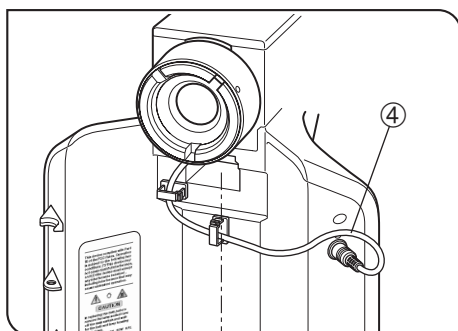

Fig. 49
- ⊙ Distribute its cable ④ toward the rear panel by passing it below the arm, and connect the cable to the connector on the rear panel.
- ⊙ As shown in Fig. 49, connect to the connector by letting the cable into the cable holder (attached with BX43-5RES) attached to the rear panel.